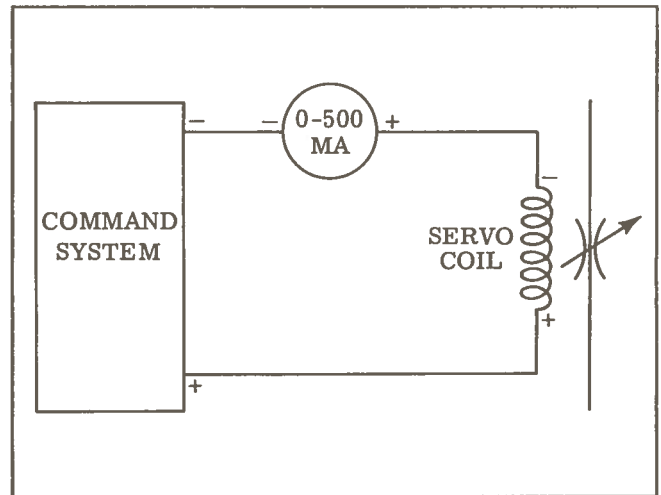

Figure 7. Servo Test Wiring Circuit
1. Connect meter in system according to Figure 7.